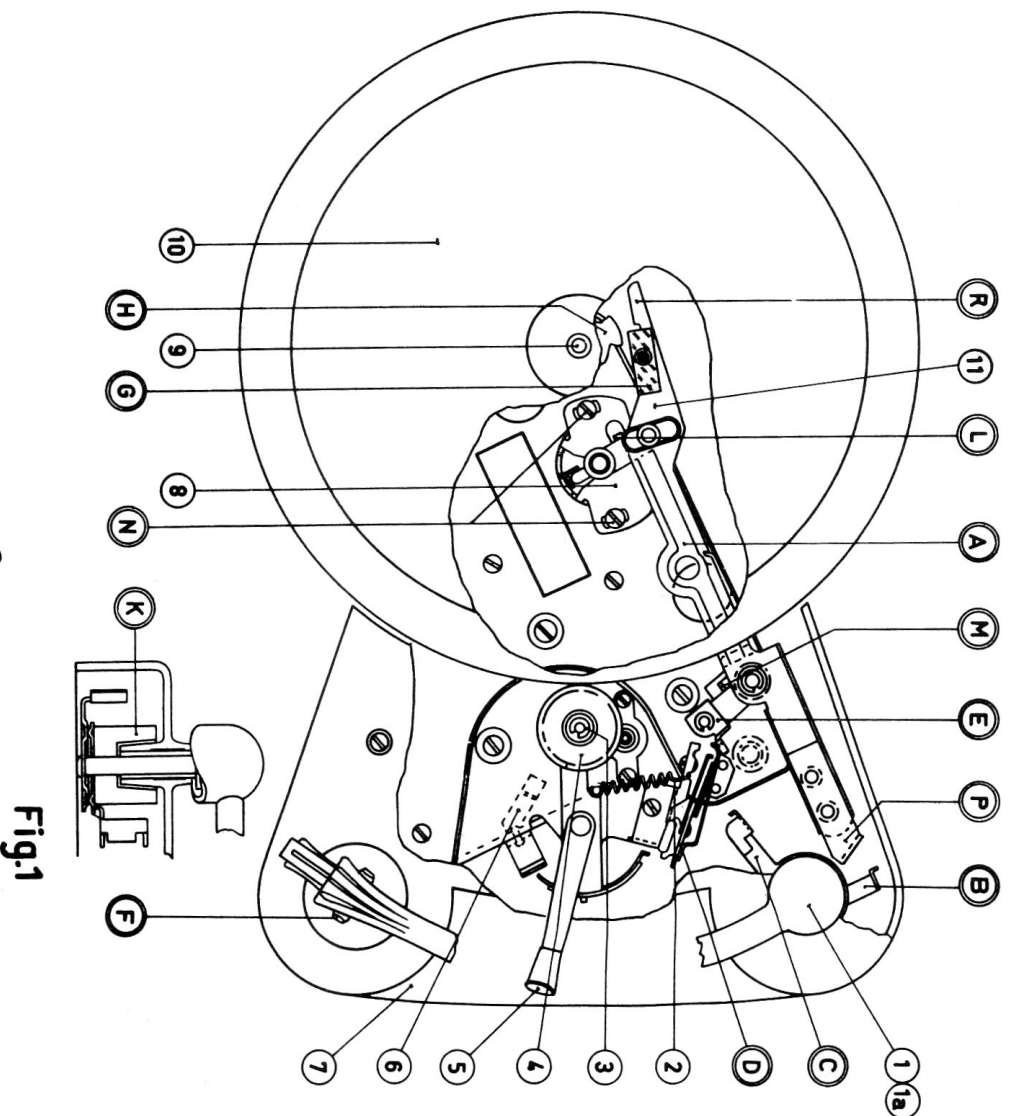
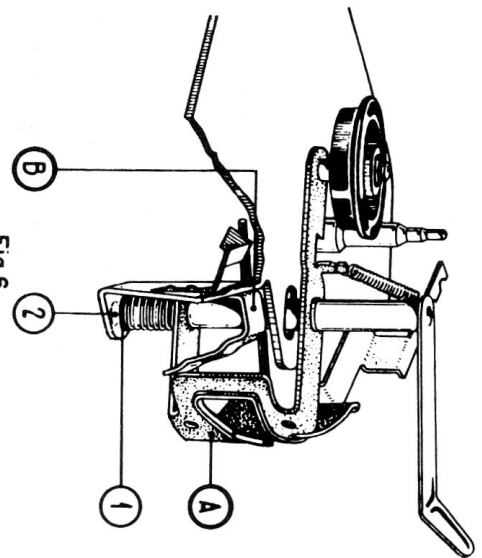

Fig.1
Fig.6
In the 78 r.p.m. position the bracket on which the spindle of the intermediate wheel has been mounted, should not touch the motor plate and the intermediate wheel should rest against the running surface of the turntable at a height of at least 1/16" from the lower edge. In the 33 1/3 r.p.m. position the spindle of the intermediate wheel must be completely free from the cover (fig. 1). The correct height of the intermediate wheel can always be obtained by bending the bracket.
The tension of the spring of the intermediate wheel (4 fig. 1) should be 90 - 100 g. If the tensile force is too great, it can be diminished by stretching the spring, if the tensile force is too small, shorten the spring. If the pressure cannot be increased the spring has to be renewed. In the three positions of the speed selecting lever, the distance between the brackets A and B must be about $9/32$ ", when the turntable is fitted. This can be adjusted by bending the bracket. (B fig. 6).
- Fig. 1 Top view
- Fig. 6 The mechanism for the speed selecting.